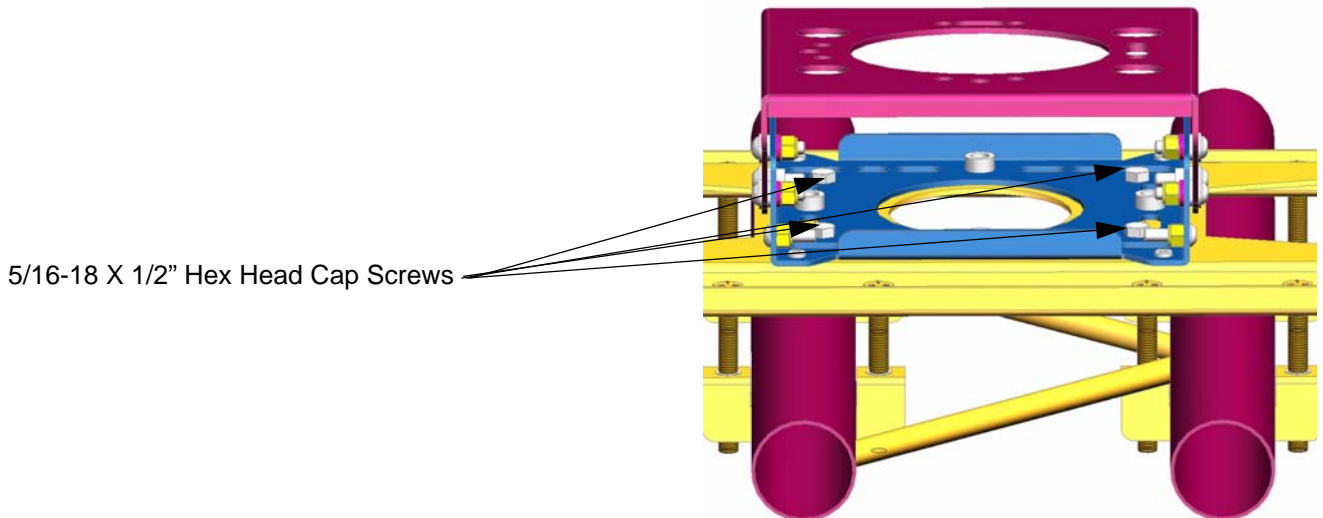

Figure 3. Pitch-Adjustable Plate to Back Plate
5. Install the pitch-adjustable plate on the back plate and secure using four 5/16-18 X 1/2" hex head cap screws (see Figure 3).